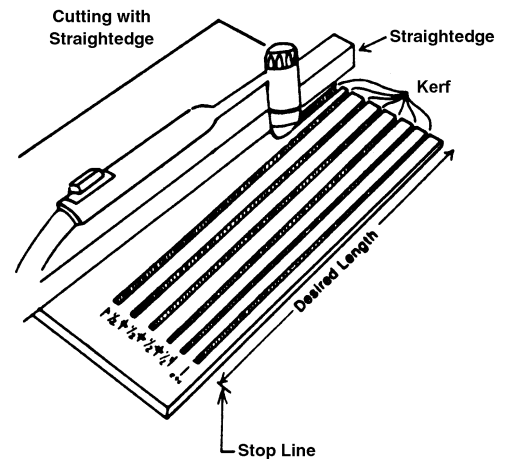

Figure 1.1
1. Start the machine and move along the side of the straightedge for the complete length of the desired cut, as shown in Figure 1.1.